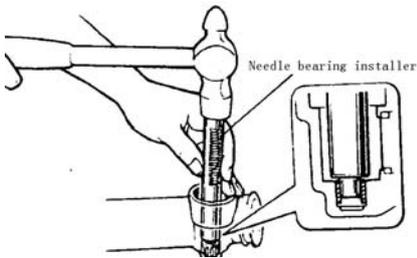

FIG.15-7
- (1) Clean all the parts prepared to install.
- (2) Apply grease to needle of needle bearing.
- (3) Depress needle bearing into rack case using special tool . (Refer to FIG.15-7)